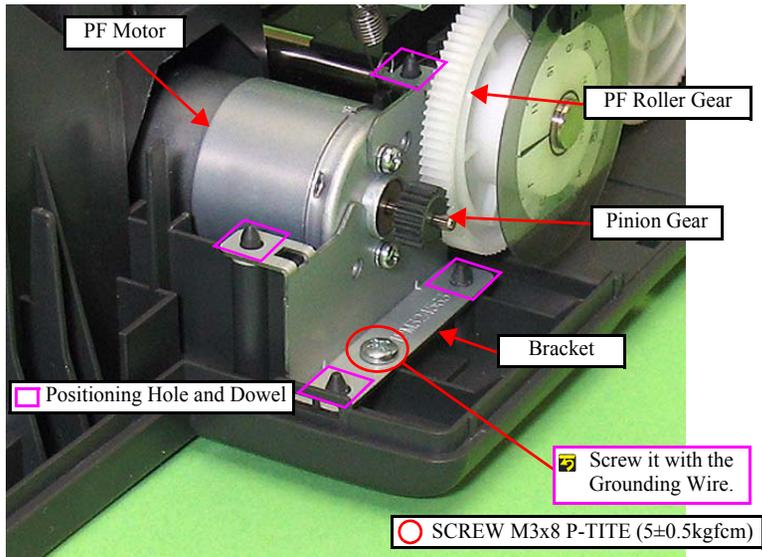

Figure 4-70. Removing the PF Motor (3)
- Before securing the Bracket, align the four positioning holes of it with the four dowels of the Lower Housing. (See Fig.4-70.)